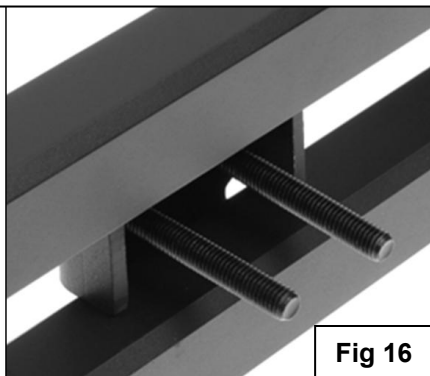
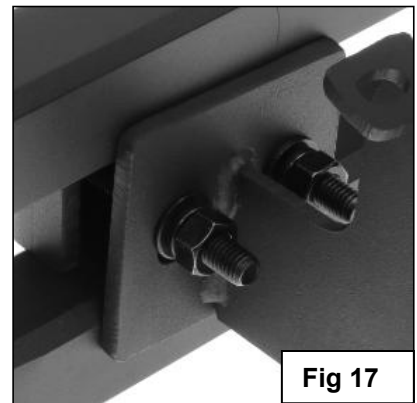

Fig 16
Fig 17
11. Select the Driver Side Bar. Slip (2) M10X1.5-75 Carriage Bolts into each 2-Hole Support Brackets ,and insert the 2-Hole support bracket into the Driver Side Bar.**(Fig 16)**. Carefully position the Bar onto the (3) Mounting Brackets. **IMPORTANT: Do not slide the Bar on the Brackets or damage to the finish may result.** Attach the Driver Side Bar to the Mounting Brackets with (2) M10 Hex Nuts,(2)M10 lock washers and (2)M10 flat washers, **(Fig 17)**. Do not tighten hardware.